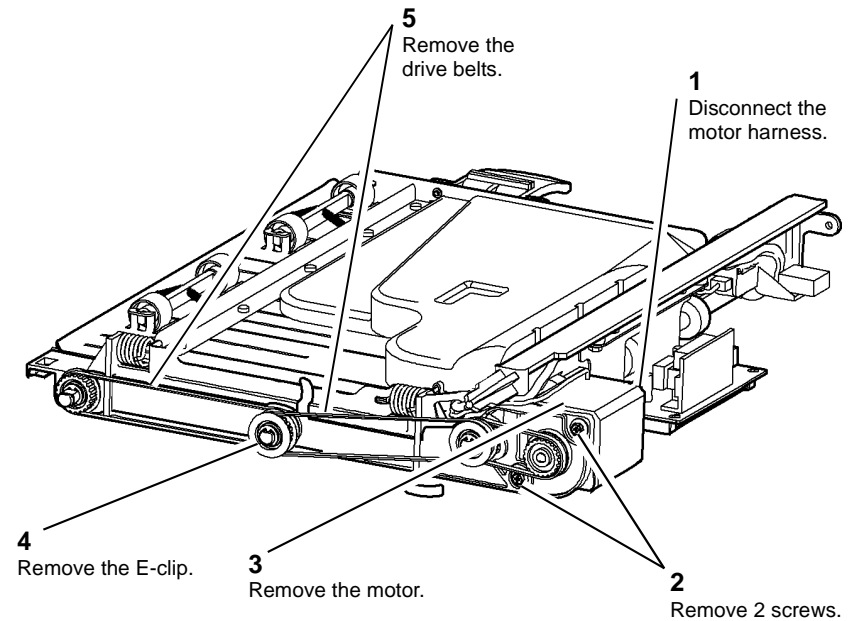

Figure 1 Motor and belts removal
2. Remove the motor and drive belts, Figure 1.